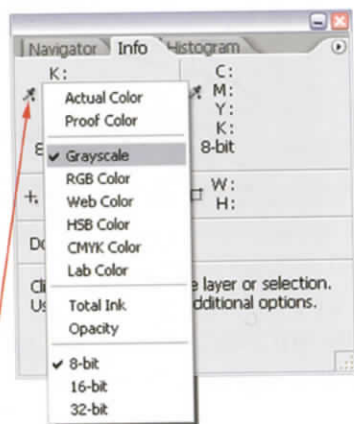

Figure 7-8 Info palette and menu. Select the eyedropper on the Info palette to access the menu; select Grayscale.
1. Select the Info palette and make sure that the grayscale values are displayed; they are listed as K values (or percent black). Click the eyedropper symbol to access the menu and select Grayscale (Figure 7-8).